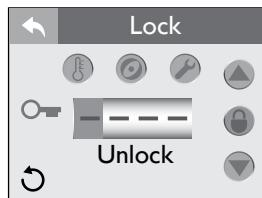

Figure 12.8c
**D. To Unlock (Figure 12.8c):**